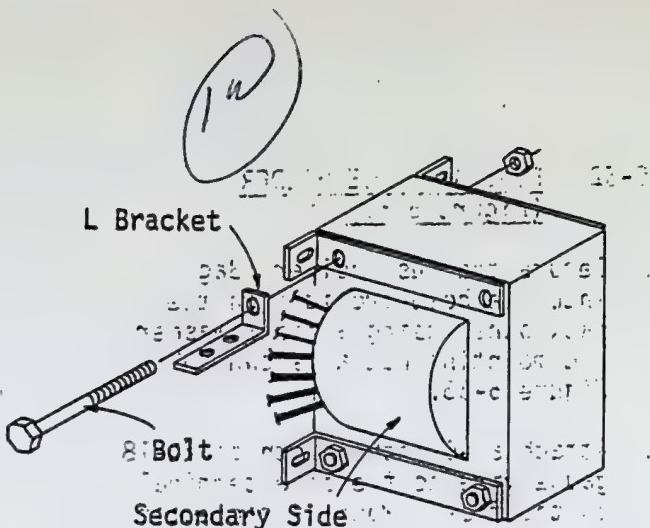

Figure 5-55. "L" Bracket Mounting
**5-64. TRANSFORMER. (Figures 5-55 through 5-69)**
1. Orient the transformer with the secondary side (four large wires) facing you. Remove the two top bolts and nuts and use them to mount two "L" brackets (Bag 2) as shown in Figure 5-55.